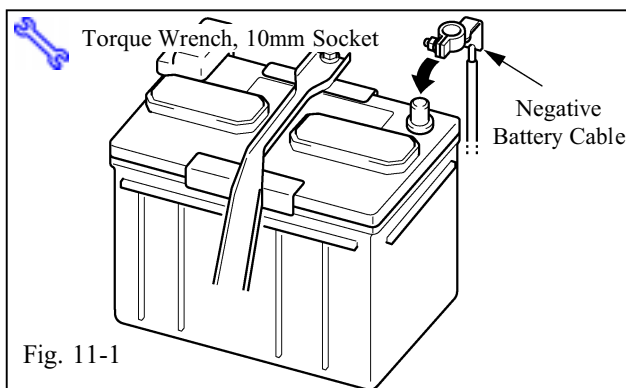

Fig. 11-1
- (1) Reconnect the connectors.
- (a) Reconnect the vehicle's negative battery cable. (Fig. 11-1)
- (1) Position the negative terminal at an angle of 90° to the battery as shown.
- (2) Tighten the nut with 4.1 N-m (36 lbf-in) of torque.
- (3) Be careful not to touch the positive battery terminal.